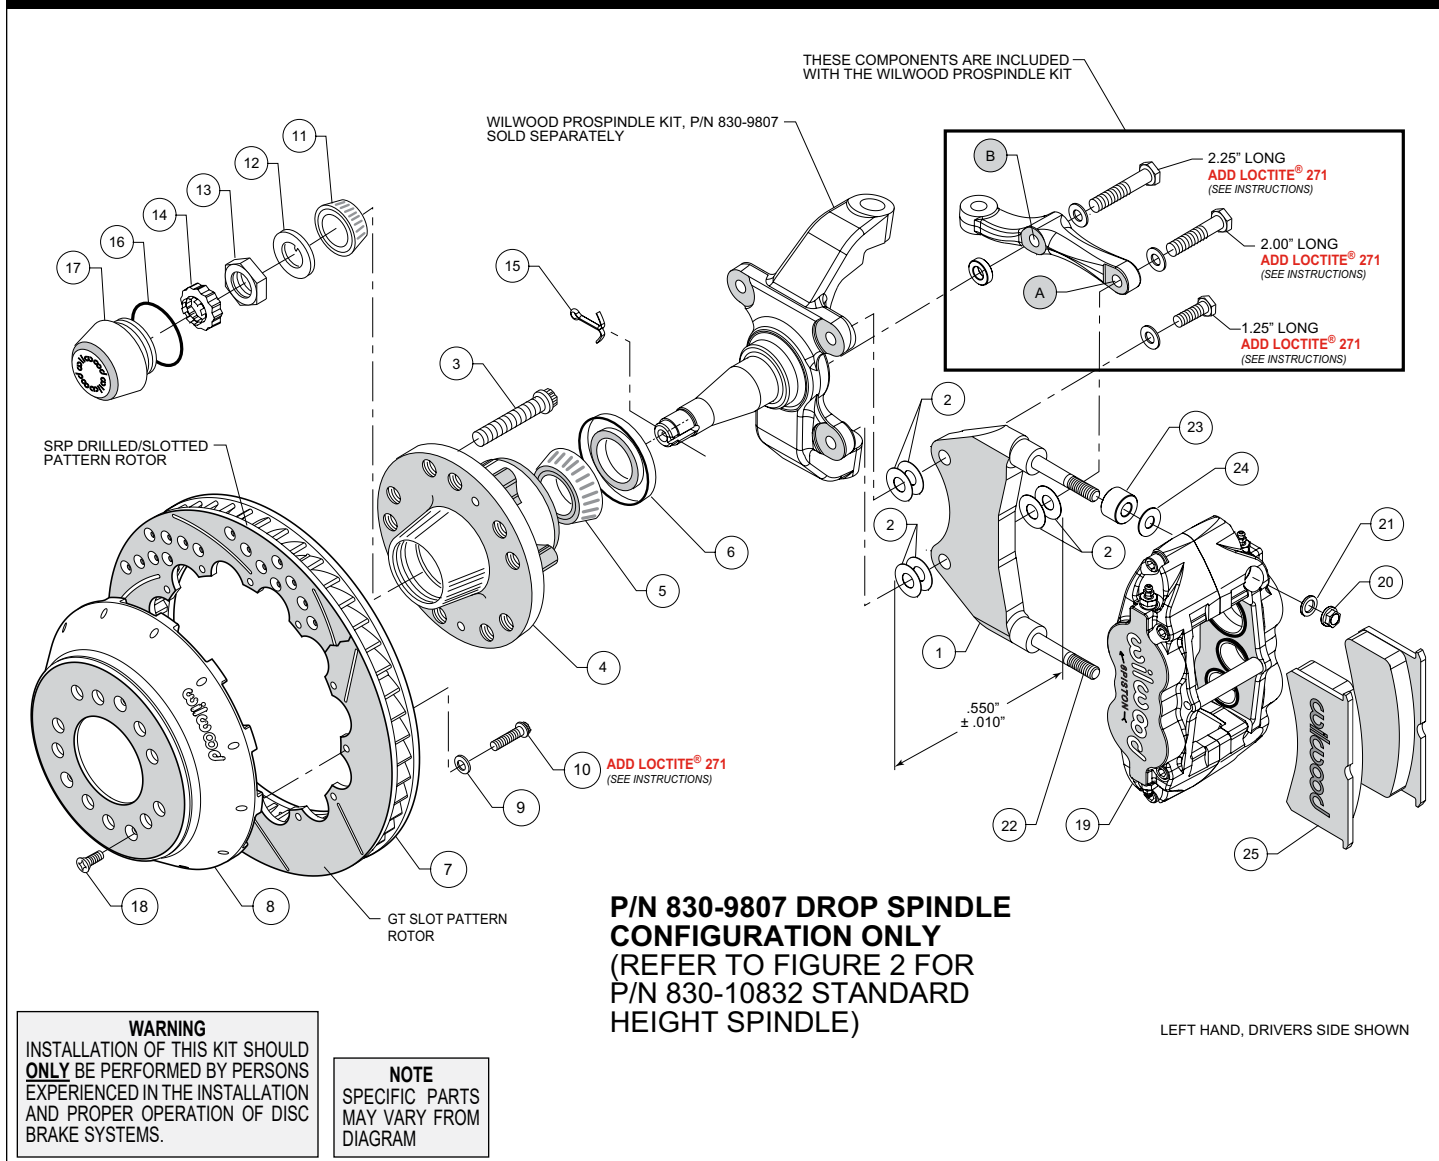
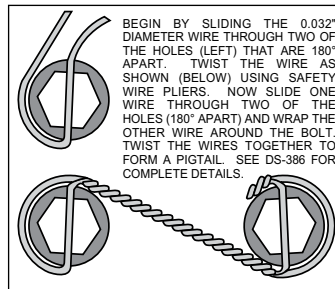

Figure 1. Installation Configuration For Drop Spindle, P/N 830-9807
Figure 4. Safety Wire Diagram
Assembly Instructions (numbers in parenthesis refer to the parts list and Figures 1 or 2 on the preceding pages):
- NOTE:** Each Wilwood ProSpindle kit includes bolts, washers, and a spacer to mount the steering arm and caliper bracket. The various bolts are identified by length in the following instructions and in Figures 1 and 2.
- Orient the bracket as shown in Figure 1 and Photo 1. Install at top spindle hole using 1.25" long bolt and .06" thick washer (from ProSpindle kit), and two .016" thick shims (2) between the bracket and spindle, Figure 1.
- Orient the steering arm, and identify the hole marked 'A', as shown in Figure 1. Install at bottom spindle hole using 2.00" long bolt and .06" thick washer (from ProSpindle kit), two .016" thick shims (2) between the bracket and steering arm, and another two .016" thick shims (2) between the bracket and spindle, Figure 1. The bracket is located between the steering arm and spindle. **NOTE:** The bracket and shim washers must add up to a total thickness of .550" ± .010", Figure 1.
- Finish attaching the steering arm through the hole marked 'B', as shown in Figure 1. Install using 2.25" long bolt, .06" thick washer, and .25" thick spacer (all from ProSpindle kit), Figure 1.
- Pack the large inner bearing cone (5) with high temperature disc brake bearing grease (available from your local auto parts store) and install into the backside of the hub (4), Photo 4.
- Install the grease seal (6) by pressing into the backside of the hub (4), flush with the end of the hub, Photo 4.
- Pack the small outer bearing cone (11) with high temperature disc brake bearing grease and install into front of hub (4). Slide the hub assembly onto the spindle. Secure using spindle washer (12) and adjusting nut (13), Photo 5. Bearing adjustment: Tighten the nut while turning the hub. When there is a slight bind on the bearings, they are seated correctly. Back the nut off about 1/6 to 1/4 of a turn, or sufficiently to allow .001" to .007" end play. **WARNING: Failure to back off adjusting nut could cause bearing to run hot and be damaged, which could cause the wheel to lock or come off.** Install spindle nut retainer (14) and cotter pin (15).
- Screw dust cap (17) into hub (4). Friction created by the o-ring (16) on the dust cap keeps it from unscrewing.
- Orient the rotor (7) and the hat (8) as shown in Figures 1 or 2, and Photo 6. Attach rotor to hat using bolts (10) and washers (9). Apply red *Loctite*® 271 to the bolt threads and torque to 155 **in-lb** using a criss-cross pattern. For an added measure of security, the bolts may be safety wired using standard 0.032 inch diameter stainless steel safety wire as shown in Figure 4. Refer to Wilwood's data sheet DS-386 (available at www.wilwood.com/Pdf/DataSheets/ds386.pdf) for complete safety wire installation instructions.
- Slide the hat/rotor assembly (8 and 7) onto the hub (4) taking care to align the small countersunk holes in the hat with the small threaded holes in the hub. **NOTE: The hat must fit flush against the hub face or excessive rotor run out may result.** Install three flat head screws (18) through the small holes in the hat (8), and torque to 85 **in-lb**.
- NOTE: This kit contains distinct right and left hand calipers that must be mounted in a specific direction, as described below.** Initially place one .035" thick shim (24), and spacer (23) on each stud (22) as shown in Figure 1 or 2, and Photo 7. Mount the caliper (19) onto the bracket (1) using lock nuts (20) and washers (21), Figure 1 or 2. Ensure that the caliper is mounted so that the largest pistons are at the rotor exit end of the caliper, in relation to the direction of rotor rotation. Temporarily tighten the lock nuts and view the rotor through the top opening of the caliper. The rotor should be centered in the caliper, Photo 8. If not, proceed as follows:
- For the lower bracket mount bolt, if a shim was added between the bracket and spindle, then a shim must be removed between the steering arm and bracket, such that the total thickness of bracket and shims remain equal to $.550 \pm .010$ ", Figure 1.